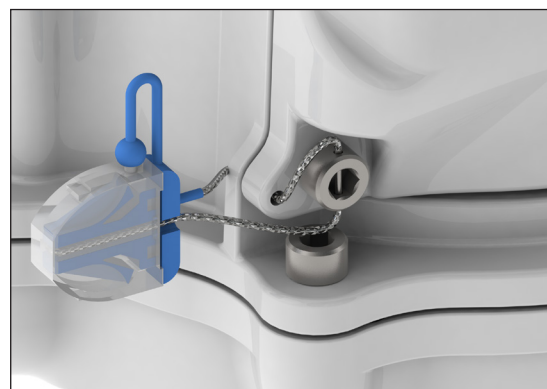

Figure 7. Tamper evident seal
- a. Thread the wire end through the security hole near the battery cover and through the hole in the screw as shown in Figure 7.